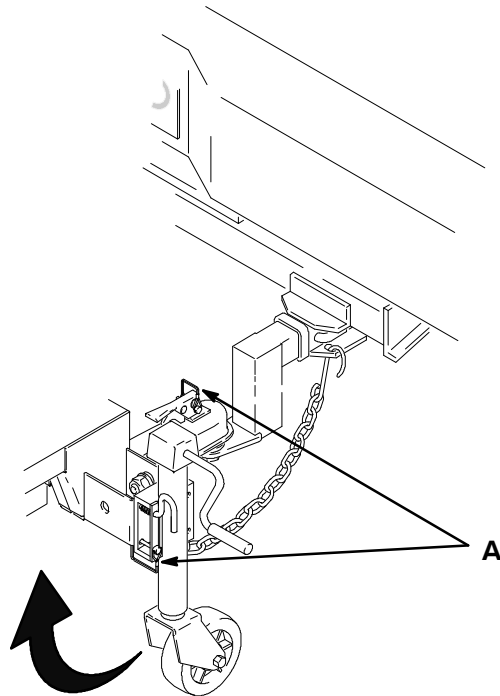

Fig. 5 06245A
Choose a ball mount that allows the RoadLazer to travel level to the ground with an average payload. A recommended option is two DRAW-TITE adjustable 2-in. ball mounts. See Fig. 5. The ball mount must have a 2-in. by 2-in. insert with at least a 1-in. diameter ball mount hole. The ball mount hole and shank diameter must match. The ball mount must have a rating of at least 5000 lb (227 kg) GTW, 500 lb (227 kg) TW.
- f. Secure safety pins (A) for both trailer arm couplers and trailer arm jacks.
NOTE: When you unhook the RoadLazer from the tow vehicle, replace the safety pins (A) as shown in Fig. 5.